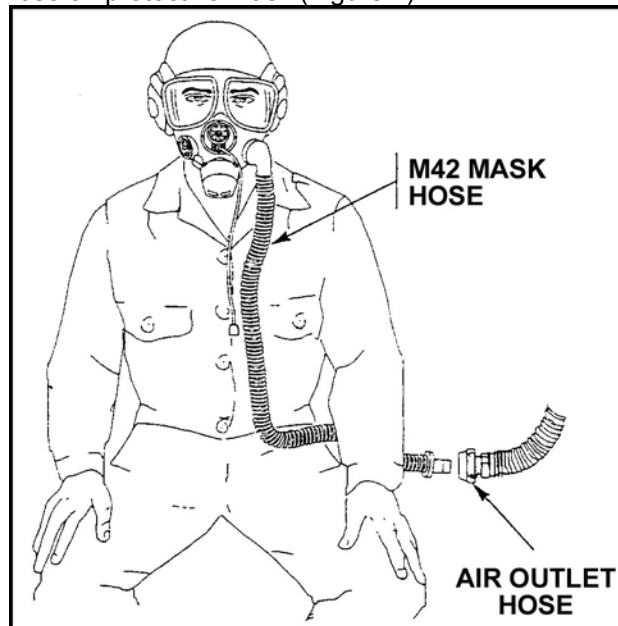

Figure 7. Air outlet hose quick disconnect.
- (1) Turn NBC heater knob to the right until the green NBC heater indicator light comes on.
- (2) Turn the knob to the right to increase air temperature.
- (3) Turn off the NBC heater by turning the knob to the left until it stops and the green light goes off.
- h. Install air outlet hose on protective mask (Figure 7).